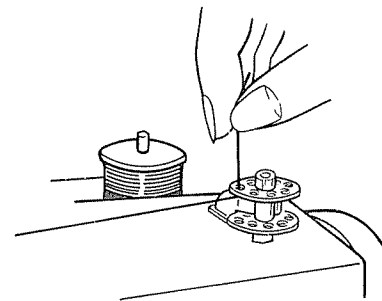

Fig. 3
5. Hold the end of thread and run the machine. (Fig. 3) Cut the free end of thread after winding thread around bobbin several times. Then again, run the machine until thread is wound 70 to 80% and stop machine.
3. Pull it through under tension spring and then into delivery eye (Fig. 3).